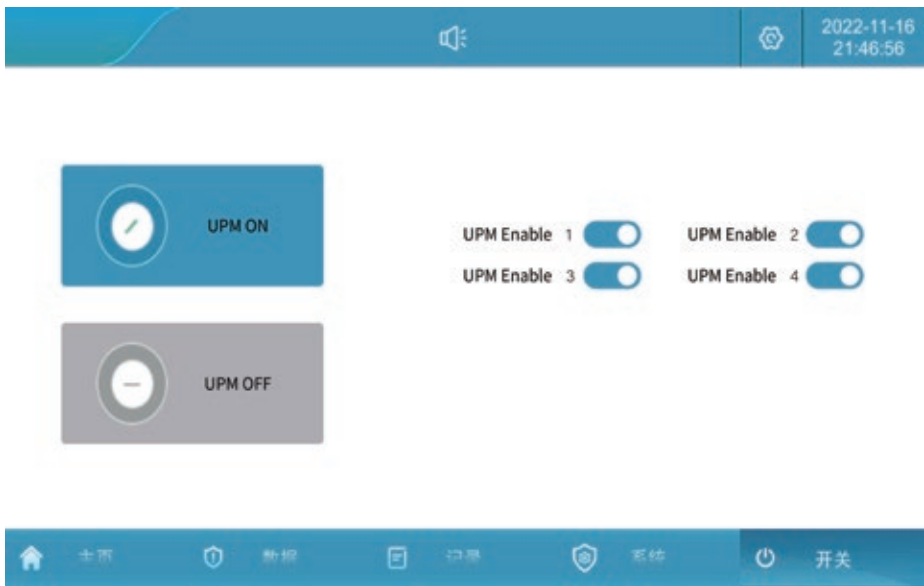

Figure 5.11 Switch on/off screen
- 3、 Click "Switch" to enter the current on-off interface, select enable all modules (you can also enable some modules as required, the number of modules depends on the actual shipment), click "System on" button, the normal start time is about 2 minutes, as shown in Figure 5.11.